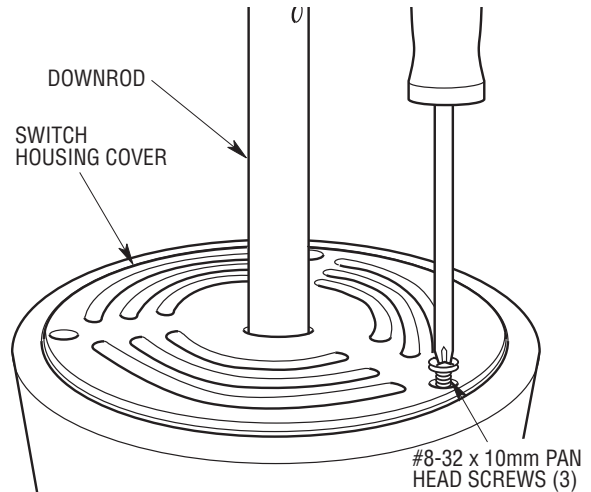

Figure 3
6. Slide the switch housing cover over the downrod and position the cover onto the upper housing. Install the three #8-32 x 10mm pan head screws (supplied) (Figure 3).